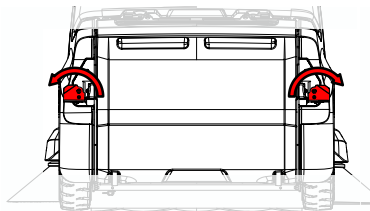

Fig. 38
- Remove the sweepings container lock Fig. 38